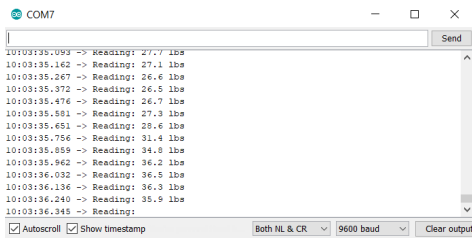

Fig. 6. Load Cell Sample Output
- 4) Compile and upload the code to the uC. To test, run your favorite serial monitor (e.g., Teraterm or the Arduino IDE builtin serial monitor, Tools → Serial Monitor). See Fig. 6 for sample output.